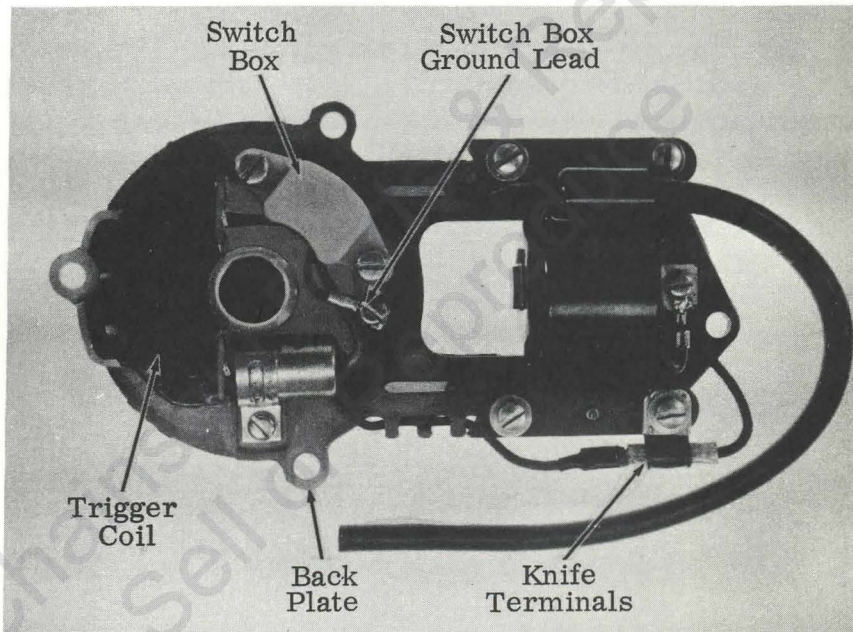

Figure 1
- c. Check for a short between the coil core and the knife terminals connecting the coil primary lead to the lead from the switch box. All leads should be dressed as shown in Figure 1. All soldered connections should be sound.
- All leads should be dressed as shown in Figure 1, with the switch box-coil primary lead knife terminals positioned parallel to the coil core. The switch box lead knife terminal should be partially covered with insulating sleeving.